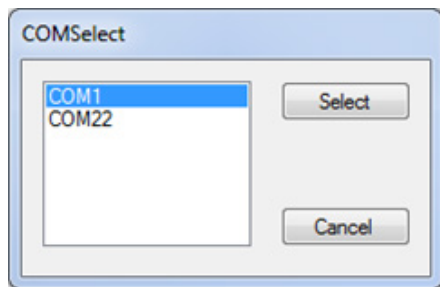

Figure 2 COM Port Selection Window
3. Select the associated COM port from the **COMSelect** window (Figure 2). Click **SELECT**. Observe that the connect status in the lower left corner of the **E1150 FCSW** window reads **Connected**.